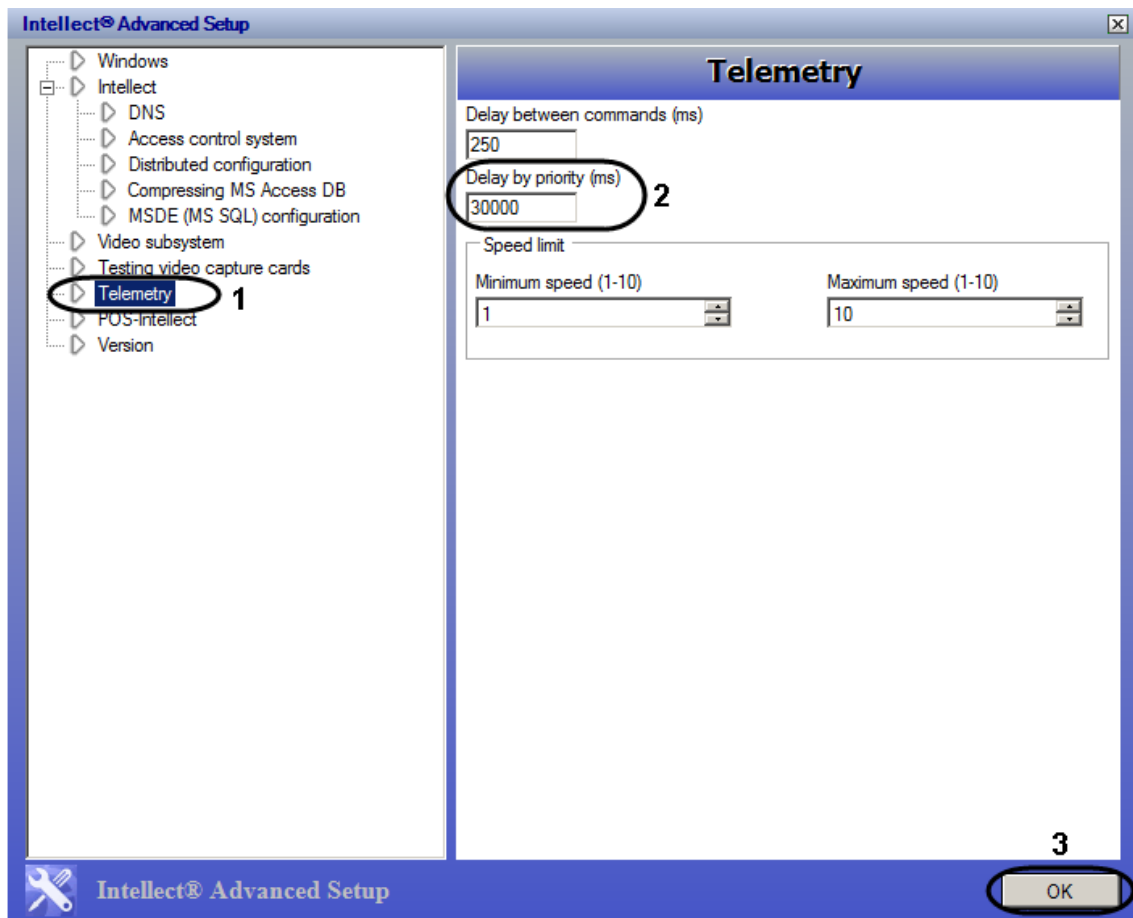

Figure 3.4-3 The Telemetry section of the tweak.exe utility
1. Run the tweak.exe utility in the **Tools** folder of the INTELLECT™ software installation directory (Figure 3.4-3).
2. Select the **Telemetry** section (Figure 3.4-3, 1).
3. Enter the value of PTZ control priority delay in the **Priority delay (ms)** field (Figure 3.4-3, 2).
4. Click **OK** to save the changes (Figure 3.4-3, 3).